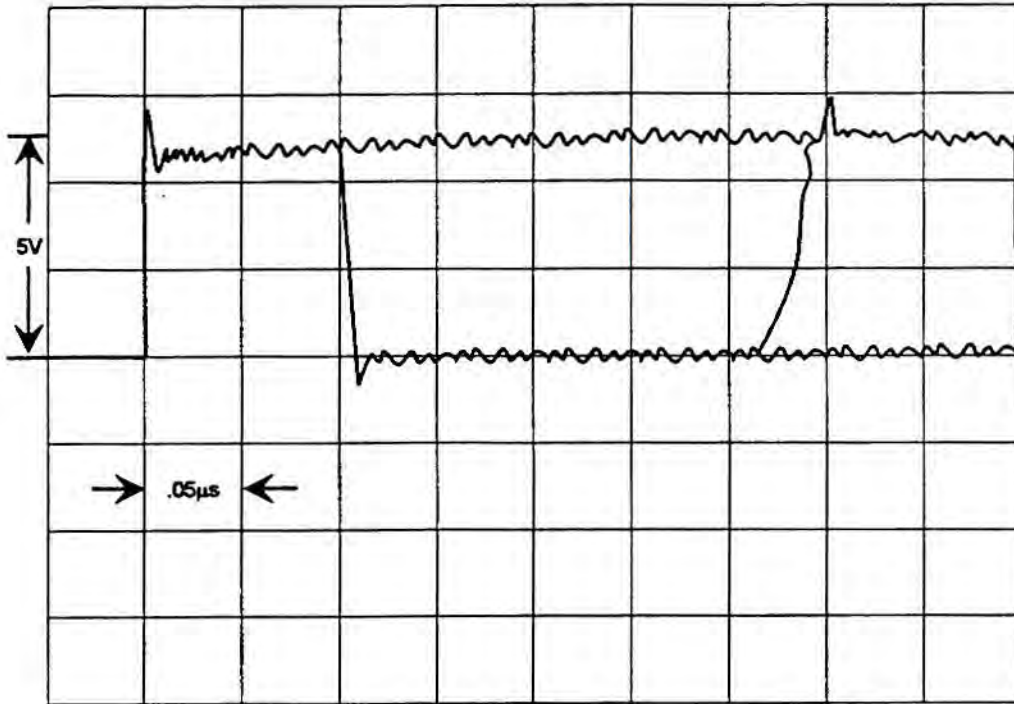

FIGURE 4-7. Typical Signal Trace for TP12
8. If data lines are correct, check TP12 for the EPROMs (U28 and U29) chip select. This should be a signal as shown in Figure 4-7. If chip select is not correct, troubleshoot through U7C and U9 back to U31 and replace as necessary.